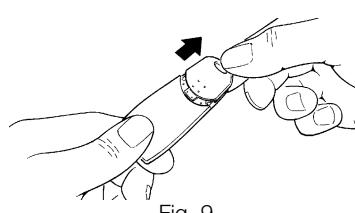

Fig. 9
- Open the base by pulling as shown in figure 9.